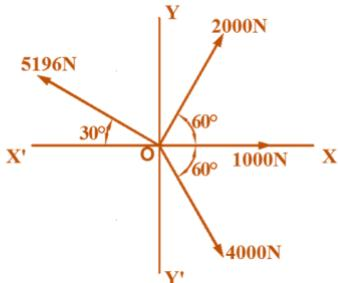

Fig.P1.11
8. The four coplanar forces are acting at a point as shown in fig.P1.11. Determine the resultant in magnitude and direction.